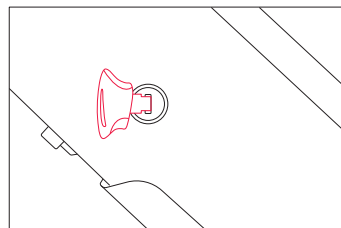
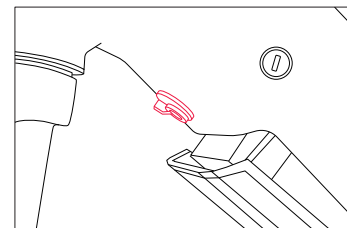

Figure 5
Figure 6
**Step 2:** Use the key to unlock the battery (fig. 5). While holding the battery with one hand, detach the battery by turning the release switch located on the underside of the frame (fig. 6).